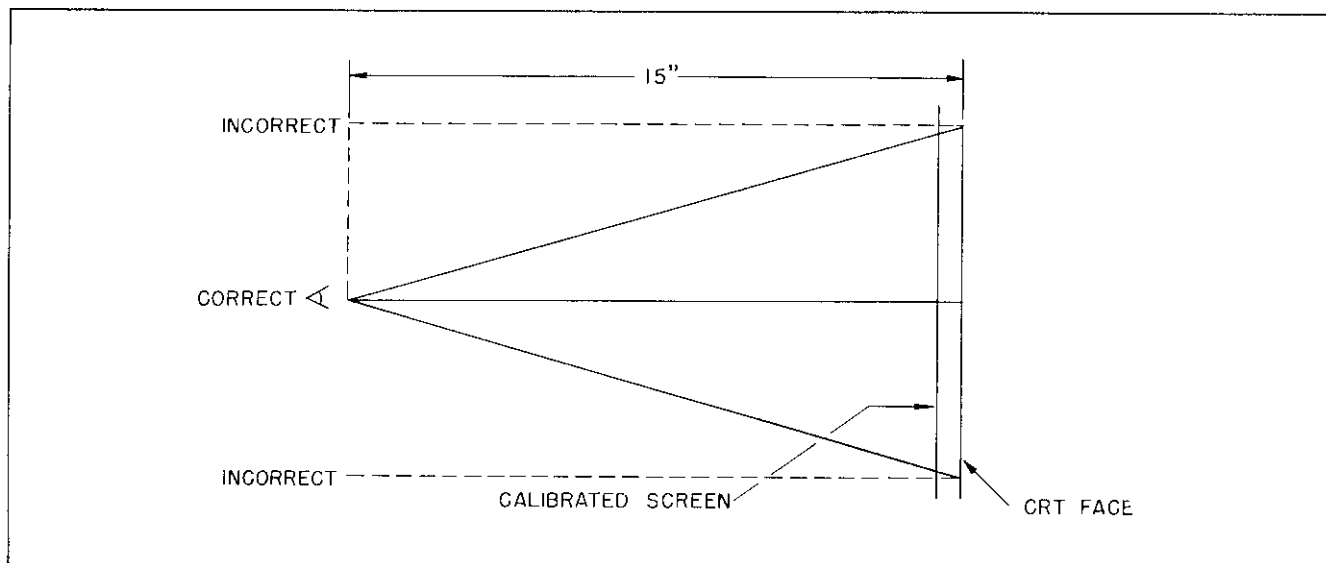

Figure III-1. Correct Viewing of CRT Screen.
b. When viewing the crt screen, the eye of the observer should be along the axis of the crt at a distance of approximately 15 inches from the face. Since the screen calibrations have been made from this position, any other position will introduce parallax error. See Figure III-1. A convenient method of finding the correct position is to close one eye and obtain a reflection of the other eye at the exact center of the calibrated crt scale.